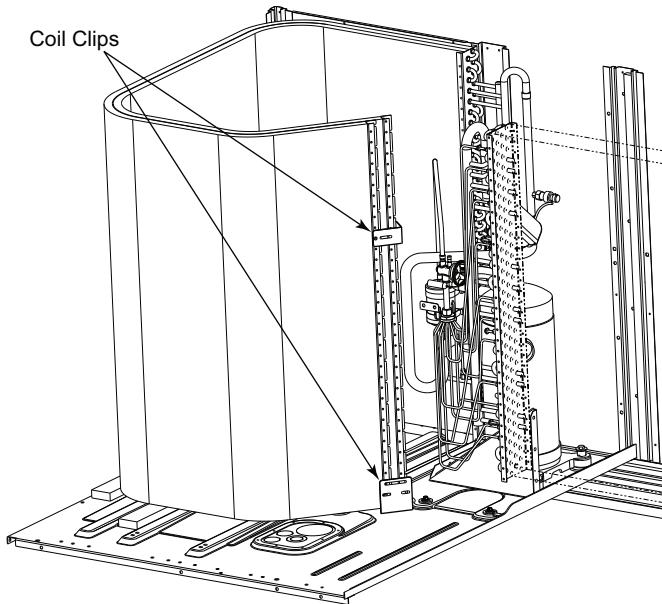

Fig. 17 – Condenser Coil Clips
5. Remove the screws from both sides of the upper and lower coil retaining clips on the hairpin end of the coil tube sheets. See Fig. 17.